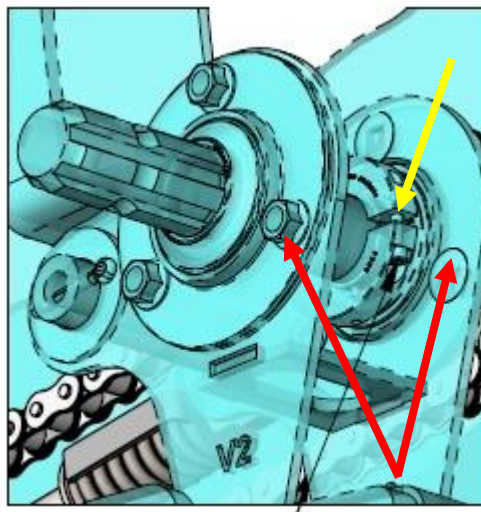

Figure 49
5. Remove the bearing flanges and the bearings off the shaft. Figure 49
7. The bearings are held on with a split lock collar bearing, Figure 49. Torque the Torx screws in this lock collar to 97 in. lbs